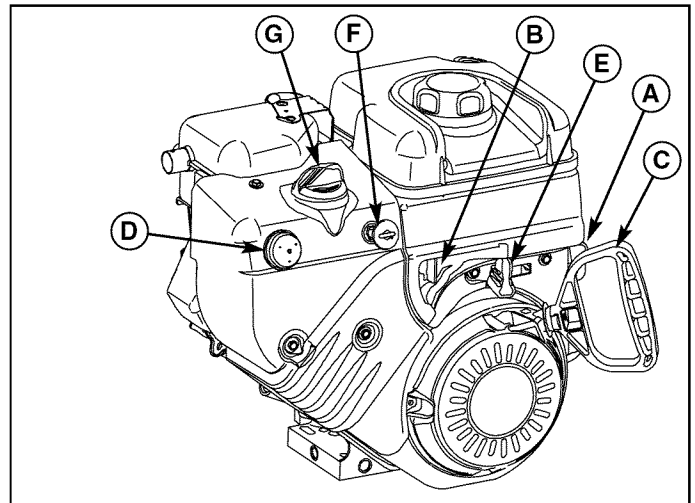

Figure 1. Engine Controls
See Figure 1 for the following instructions.
2. Insert the engine key (F, Figure 1) into the engine key slot and push fully in to the RUN position.
3. Move the throttle lever (E) fully up to the FAST position.
2. Stop the engine by moving the throttle lever (See Figure 1) down, or by pulling out the engine key.